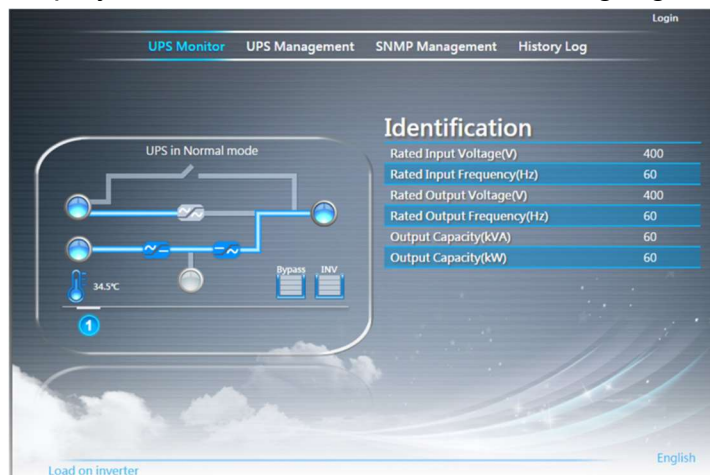

Figure 4
- The webpage display the UPS Identification, as following Figure 4.